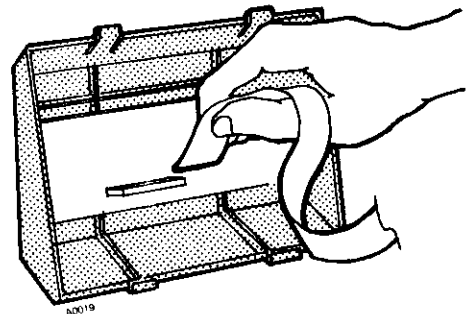

Figure 5 UNPLUGGING RIBBON CORD, EK-616
- Unplug ribbon from SPDU-6A (Figure 5).